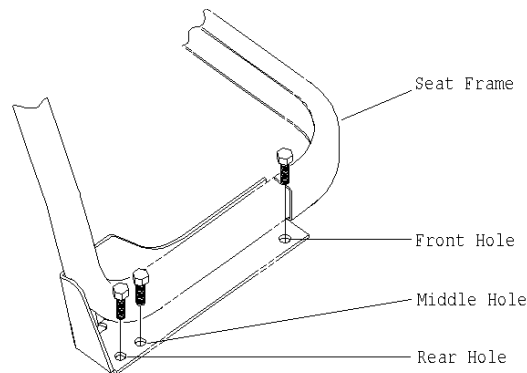

Figure 1
For all seats **without** seat belts, two (2) bolts are required. See Figure 1. One bolt will be located in the front hole. The second bolt will be located either in the middle hole or in the rear hole. Indicate the location of the bolts in each seat by placing a circle around front, middle or rear on the appropriate line on the inspection sheet.